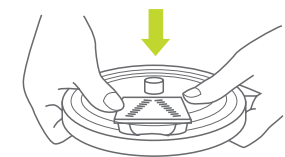

Fig. 15
1. With the processor bowl already fitted, place the slicing or grating plates into the plate holding disc the plates should be placed into the disc as shown and clicked into place. (will only fit one way) (Fig.15)